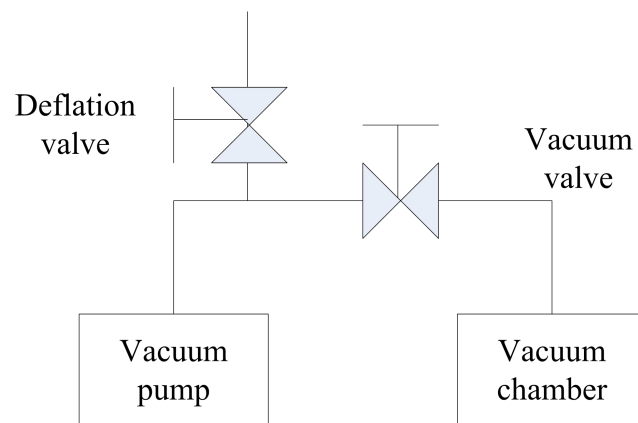

Figure 2. mechanical connection
- ◆ Vacuum valve and deflation valve should be set between vacuum pump and vacuum chamber.(see figure 2 mechanical connection)